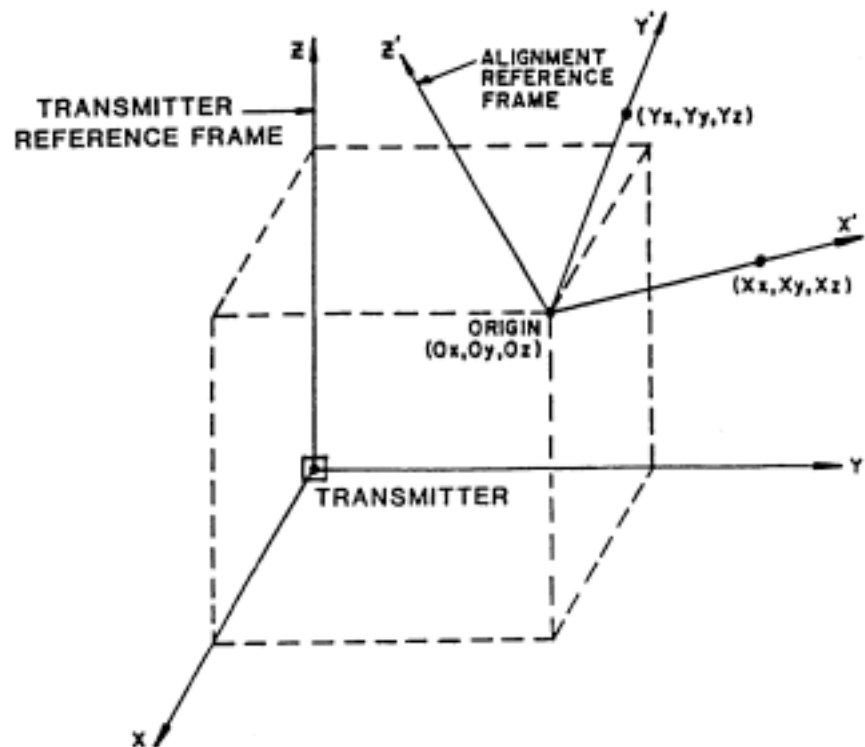

Figure 6.3A System Alignment
**Purpose:**      The alignment command does two things. It defines a reference frame to which all position and orientation output data is referred. In addition, it creates a new origin point where the X, Y, Z measurements would equal 0,0,0 if the receiver were placed there. See figure 6.3A. An example of where this command would be useful is a sloped test surface that the user wanted referenced to the transmitter. This would obtain congruence between the ISOTRAK II and the axes of the sloped surface.